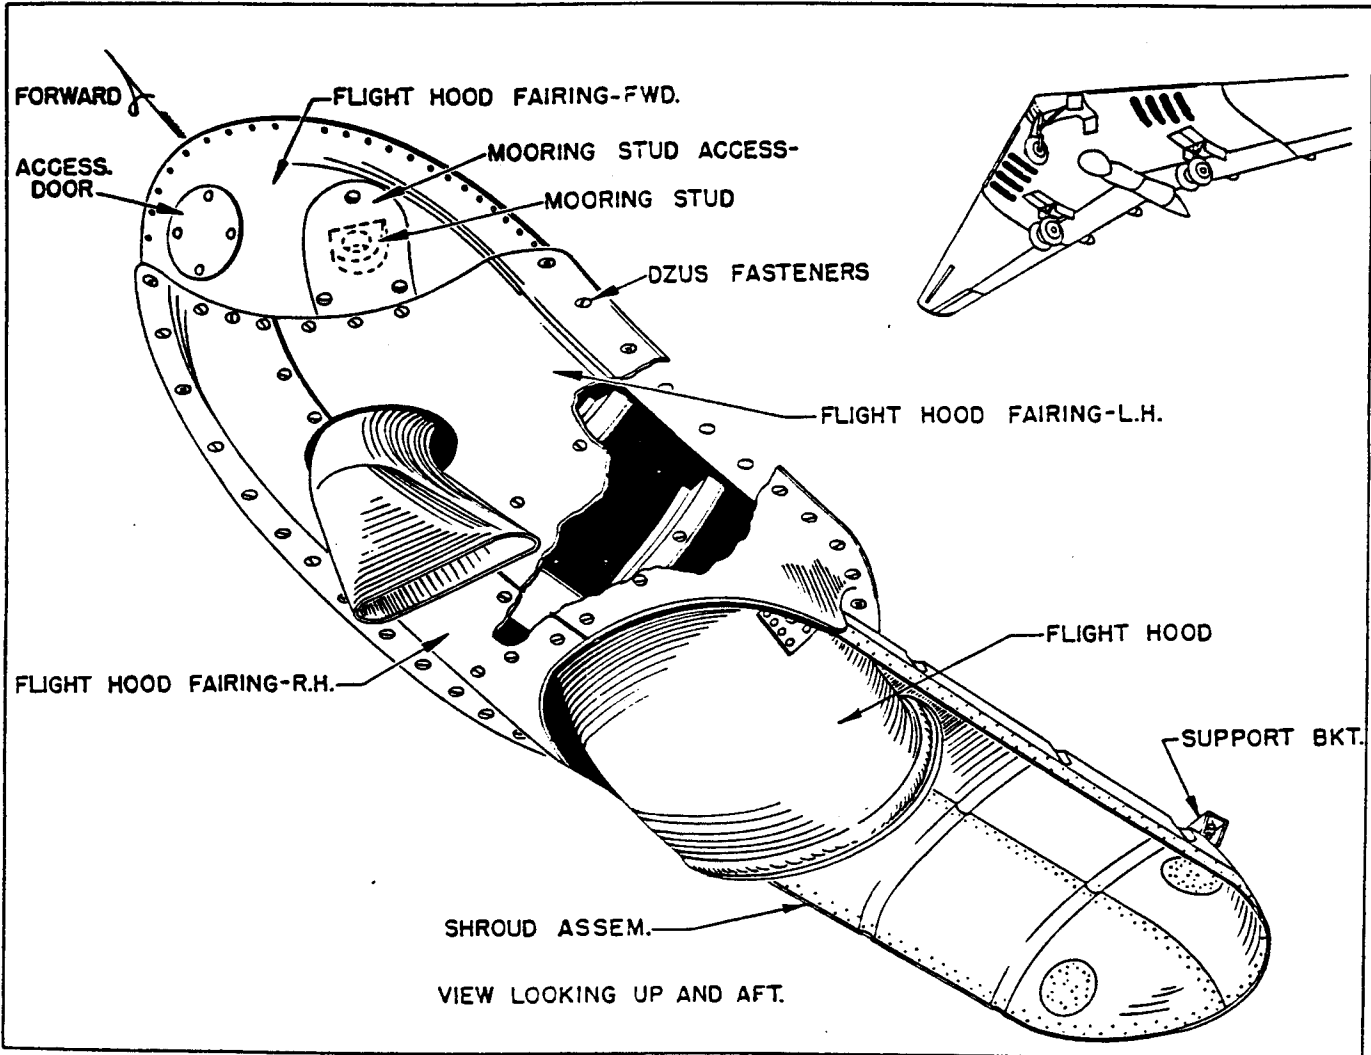

Figure 6. Flight Hood, Flight Hood Shroud, and Flight Hood Fairing
1. Remove flight hood fairing (figure 6) enclosing turbosupercharger, as described in paragraph 14 a.